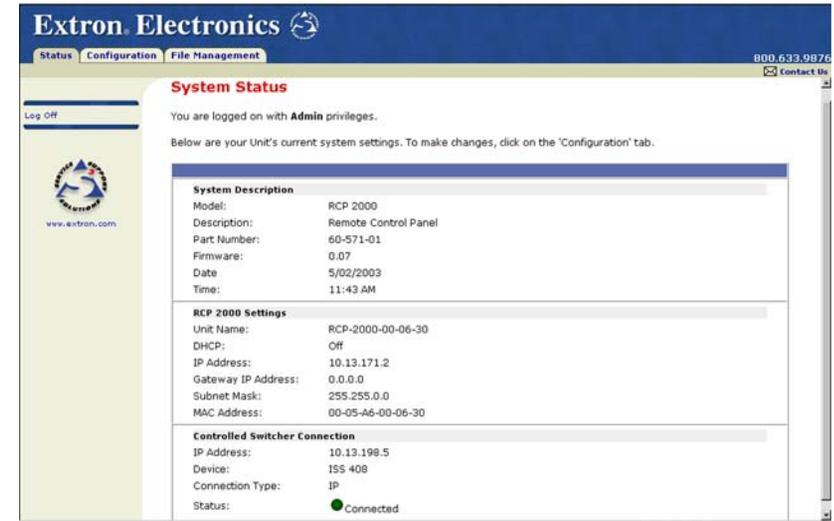

Figure 4-3 - System Status screen
3. Enter the appropriate password (if required). The System Status page opens (figure 4-3), showing the current IP address and other settings of the unit.